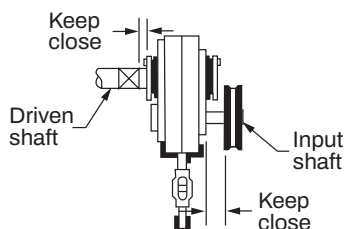

Figure 2 - Installation of Sheave
4. Install sheave on input shaft as close to reducer as practical. (See Fig. 2.)